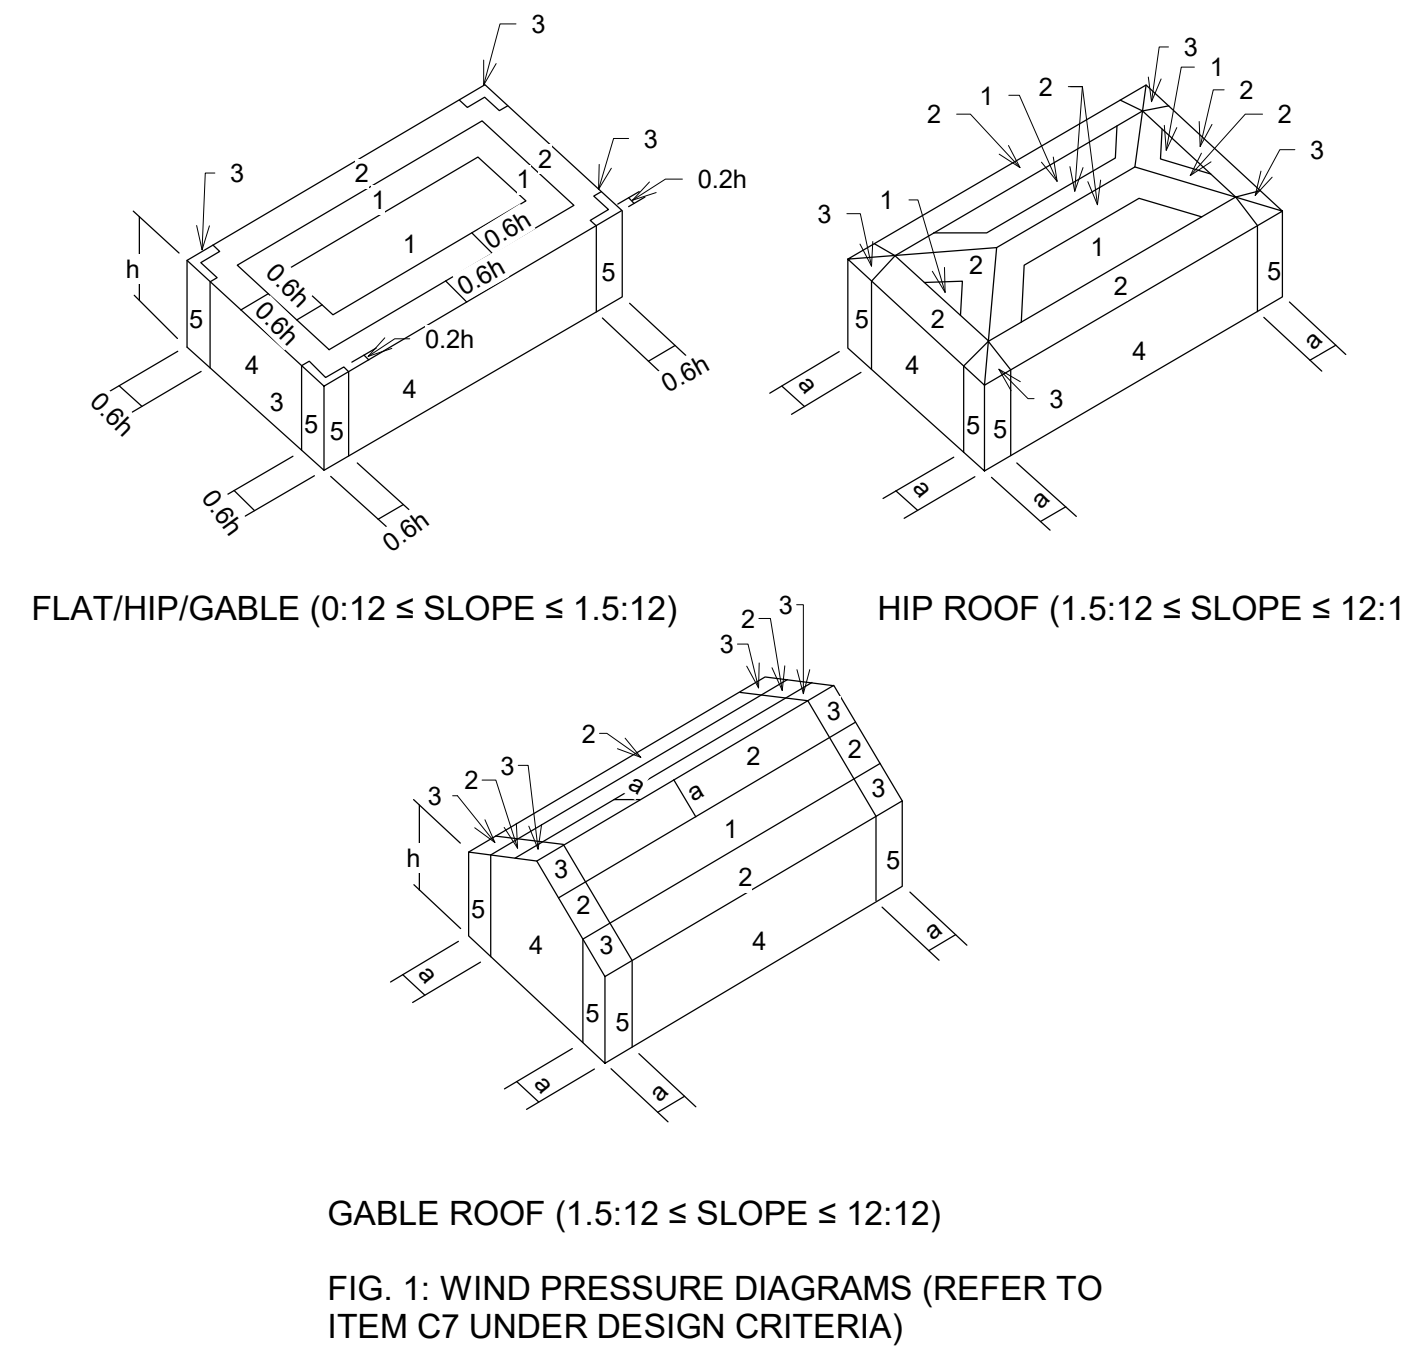

FIG. 1: WIND PRESSURE DIAGRAMS (REFER TO ITEM C7 UNDER DESIGN CRITERIA)
- WIND PRESSURES ARE REPORTED AT ASD LEVEL. SEE ALSO FIGURE 1 (THIS PAGE).